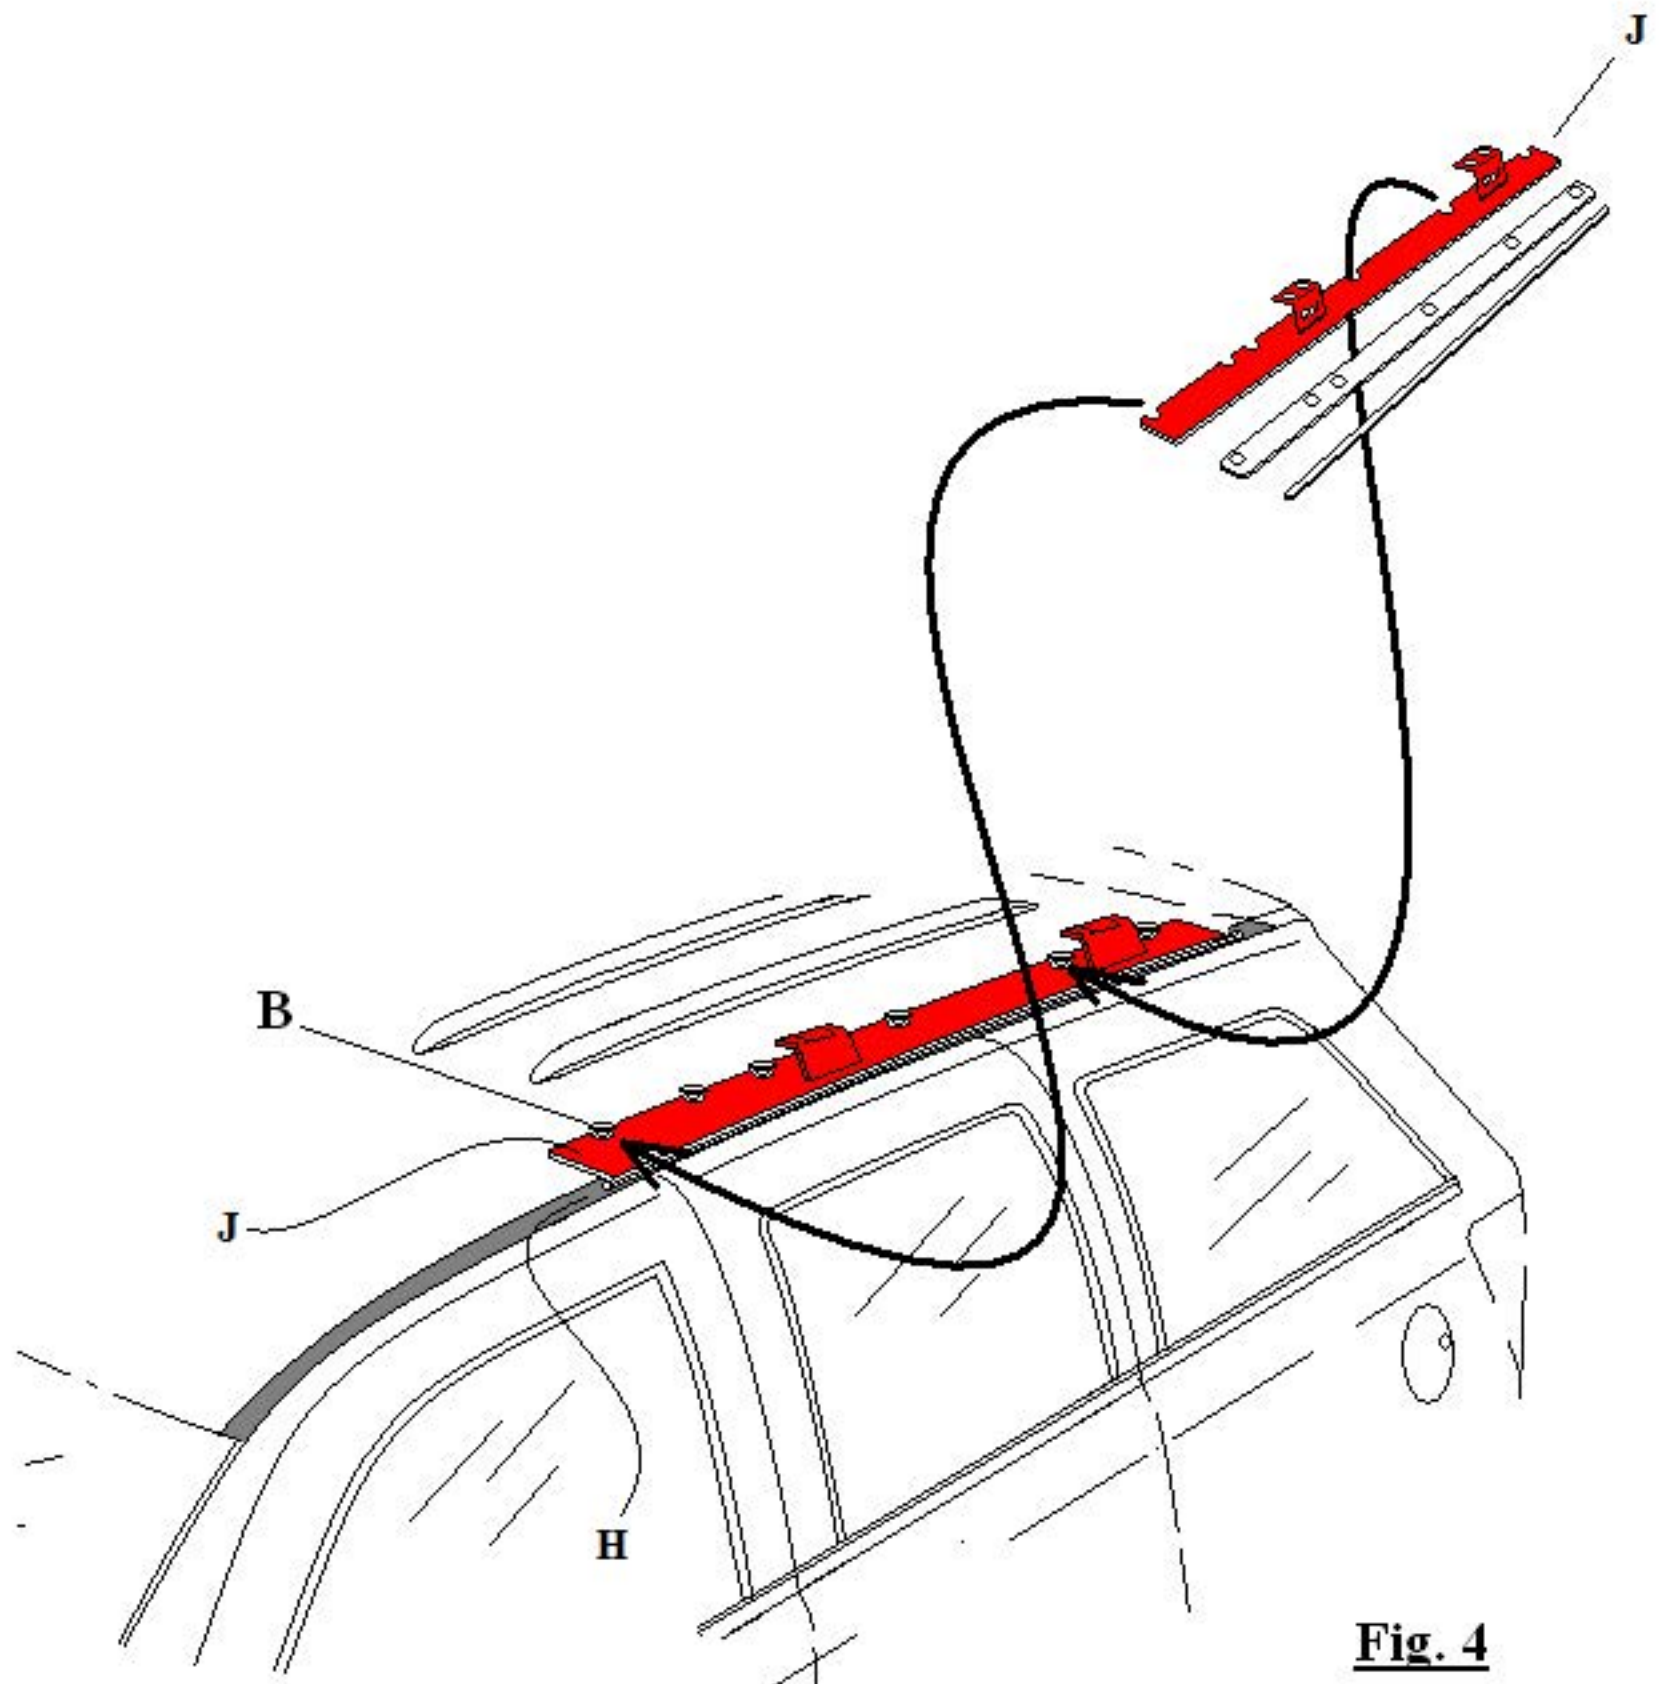

Fig. 4
- 5- Refer to page 7 Fig. 4 and remove from your hardware kit or strapped onto the Gobi roof rack, support rail (J) marked or stamped with a (D) for driver side. Slide the notched edge of support rail (J) towards the roof top rail studs (B). Start by partially sliding rail (J) under the first stud (B) towards the front of the vehicle then continuing down until all 6 notches of rail (J) are partially under all 6 studs (B) then fully slide in place. Rail (J) should now sit with all 6 notches under studs (B) and the opposite edge resting on support rail (H) previously installed as shown in Fig. 4.